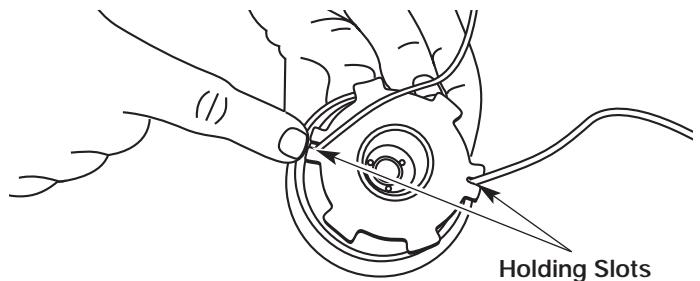

Fig. 34
12. Insert the ends of the line into the two holding slots (Fig. 34).
6. Replace the air filter inside the air filter/muffler cover (Fig. 34).